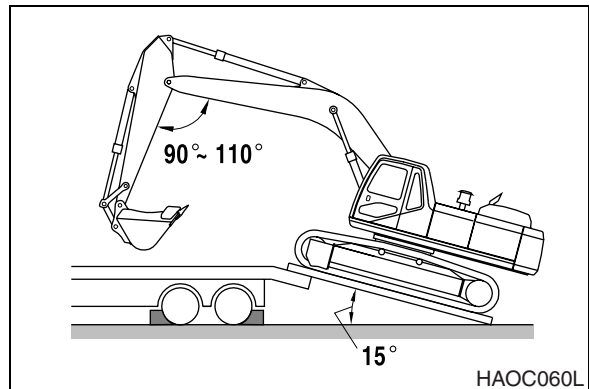

Figure 1
1. Make sure that the trailer is parked on a firm and level surface. See Figure 1.